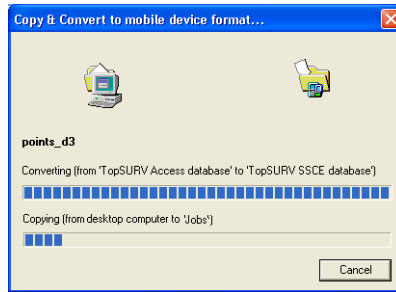

Figure 8-5. Export and Conversion in Progress
4. When the process of sending and converting the file(s) from the computer to the TPS Controller begins, the *Copy & Convert Progress* window displays the export and conversion in progress (Figure 8-5 on page 8-7).